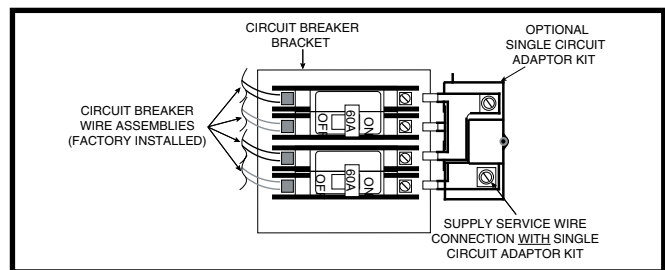
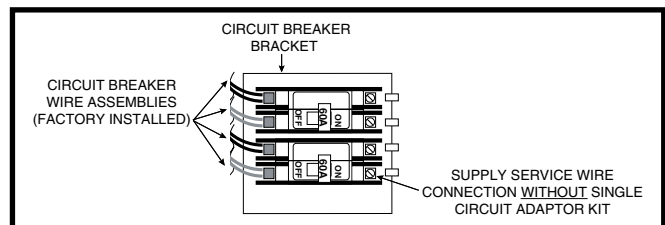

Figure 14. Optional Single Circuit Adaptor Kit
Figure 15. Installation of Supply Service Wires
- -012 models are factory-wired for single-branch supply circuit (single-circuit kit factory installed). Dual-branch circuit can be used by removing factory-installed single-circuit kit. See Figure 14 \(page 10\).
4. Insert supply service wire(s) through cable connector(s) and connect wires to circuit breakers (Figure 14 & Figure 15). **NOTE:** To install single-circuit kit, perform step 5. If single-circuit kit installation is not needed, go to step 6.